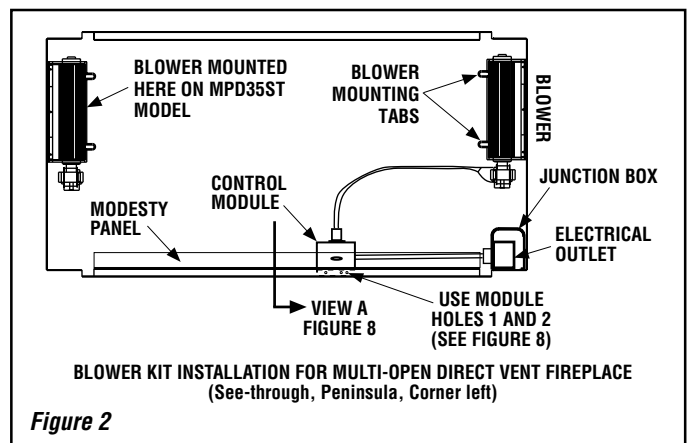
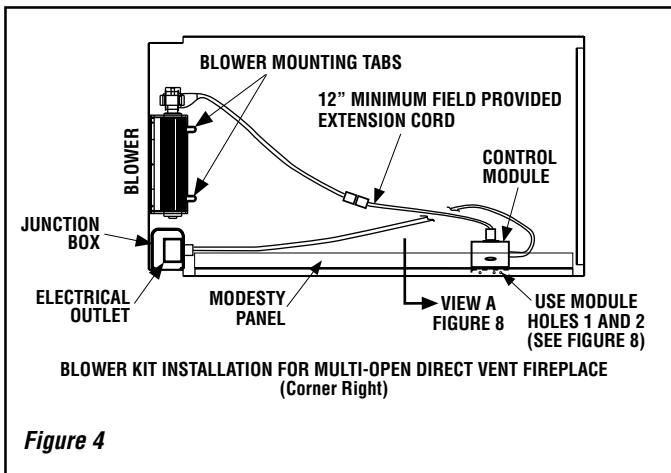

Figure 2
Figure 4
Multi-open direct vent - Open all remaining bottom hinged-panels. Slide the blower assembly through the closest opening to the flue side of the cabinet base. Position the blower assembly so that the tabs (located on the cabinet base) are seated in the notches of the blower bracket. Bend the tabs over to secure the blower assembly. *See Figure 2 for see-through, peninsula or corner-left models; Figure 4 for corner right models.*
- b** - see **Figure 2** for EDST-2, EDPF-2, and EDCL-2 multi-open units;
- c** - see **Figure 4** for EDCR-2 Multi-open units;